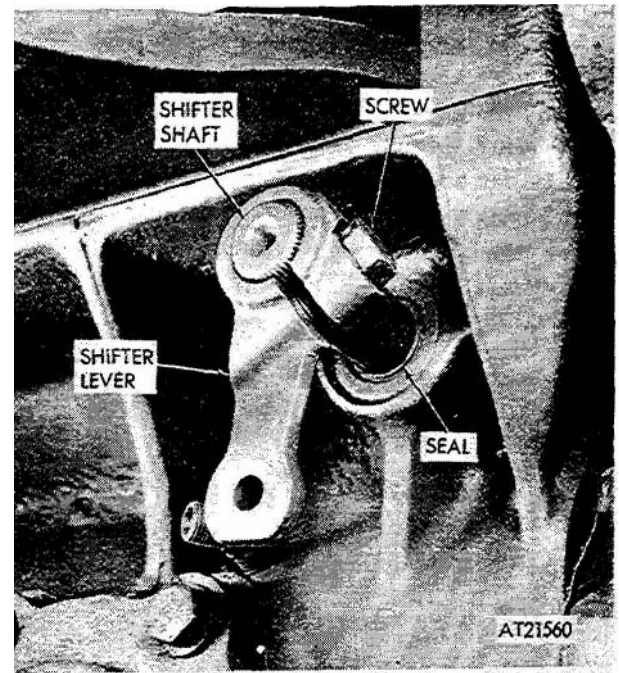

Figure 3-187. Center differential shifter shaft seal, removal and installation.
(1) Remove center differential (refer to TM 9-2320-242-20).
(2) Mark alignment marks on shifter shaft and shifter lever. Disconnect shifter lever from shaft by removing screw (fig. 3-187).